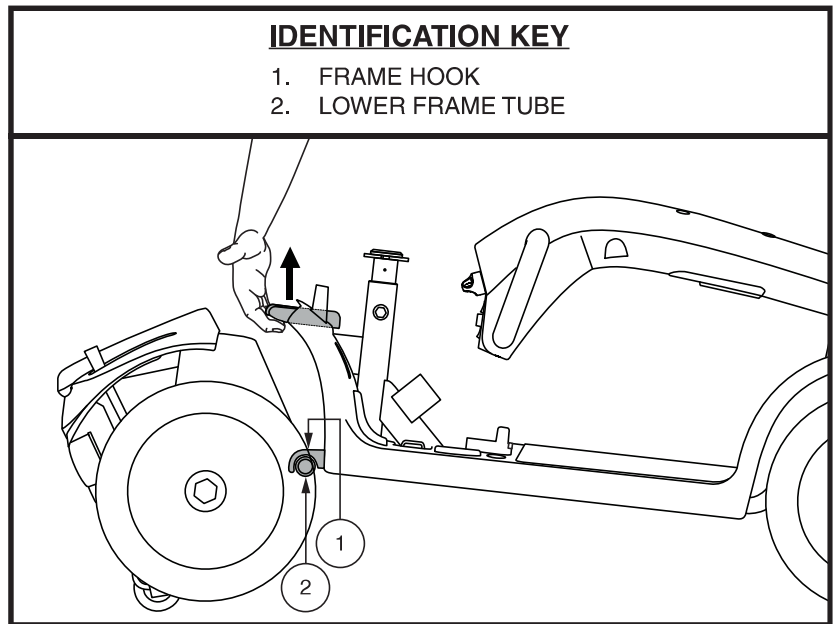

Figure 26. Frame Release Lever
3. Grasp and lift up on the frame release lever. **See figure 26.**
1. Position the front and rear sections of your scooter as shown in **figure 26.**